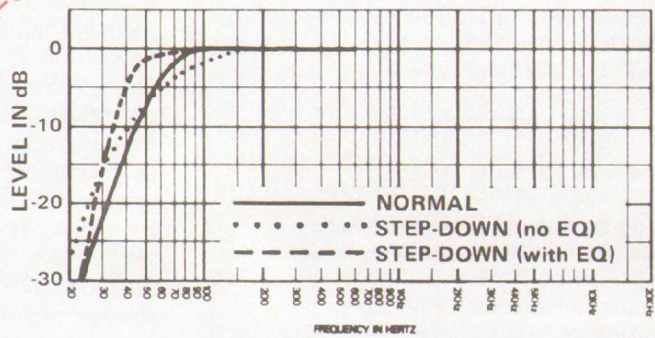
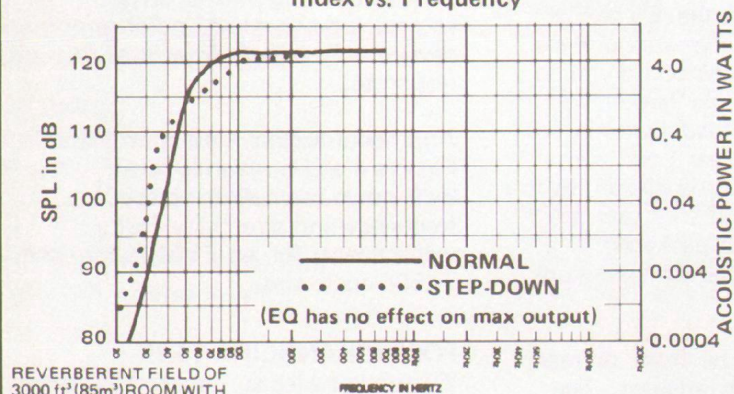

FIGURE 6
FIGURE 7
Figure 6 shows small-signal total acoustic power output vs. frequency for the TL606/EVM-15B. In addition, Figure 7 shows the maximum acoustic power output versus frequency. The maximum output is limited by either (1) the thermal power handling capacity of the speaker, or (2) the speaker's maximum linear cone excursion capabilities, whichever occurs first. Note that some 2 to 3 dB of maximum output in the 60 to 90 Hz range is sacrificed when the step-down mode is used.